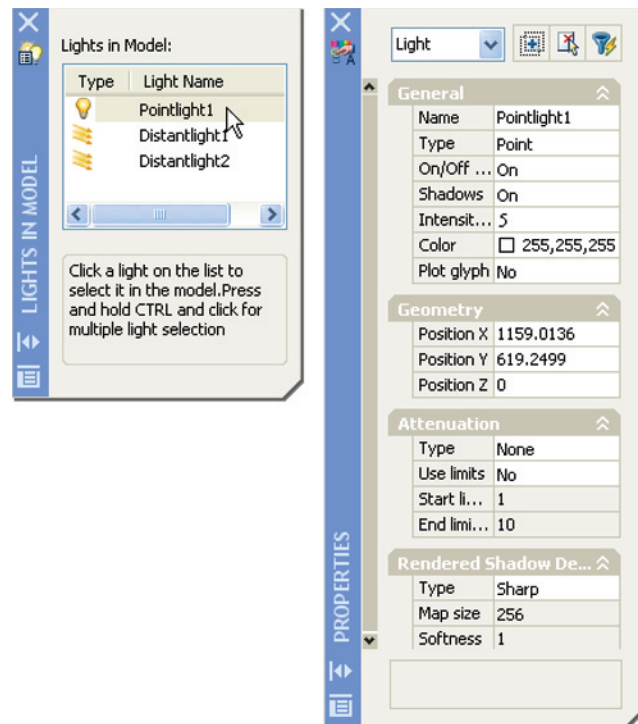

Fig. 16.16 The **LIGHTS IN MODEL** and **PROPERTIES** palettes
7. When the model has been rendered if a light requires to be changed in intensity, shadow, position or colour, *click* the **Light list** icon in the **Lights** control panel and the **LIGHTS IN MODEL** palette appears. *Click* a light name and the **PROPERTIES** palette for the light appears in which modifications can be made (Fig. 16.16). Make any amendments as thought necessary.